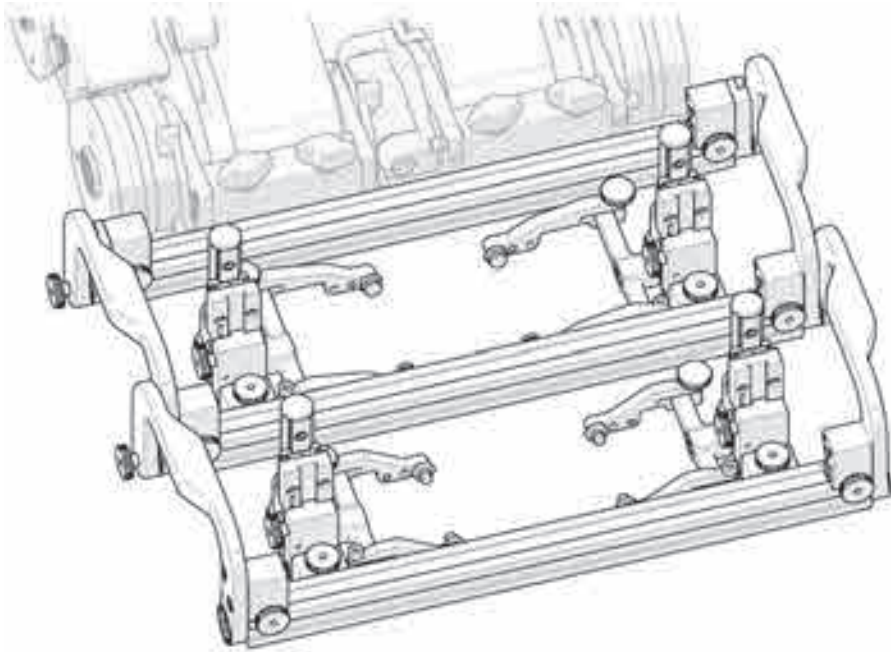

Figure 4-108 Probe holder rack
The probe holder rack adds weld scanning capability to the SteerROVER motorized scanner (see Figure 4-108 on page 172). This frame uses four (4) vertical probe holders. Additional frame components allow up to six probes to be used.